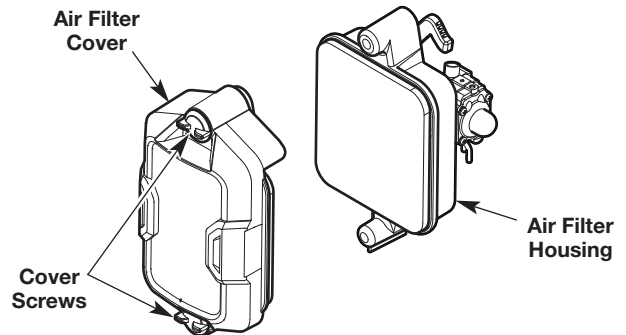

Fig. 14
1. Turn the cover screws counterclockwise to loosen the air filter cover (Fig. 14).
2. Slide the air filter cover off of the air filter housing (Fig. 14).